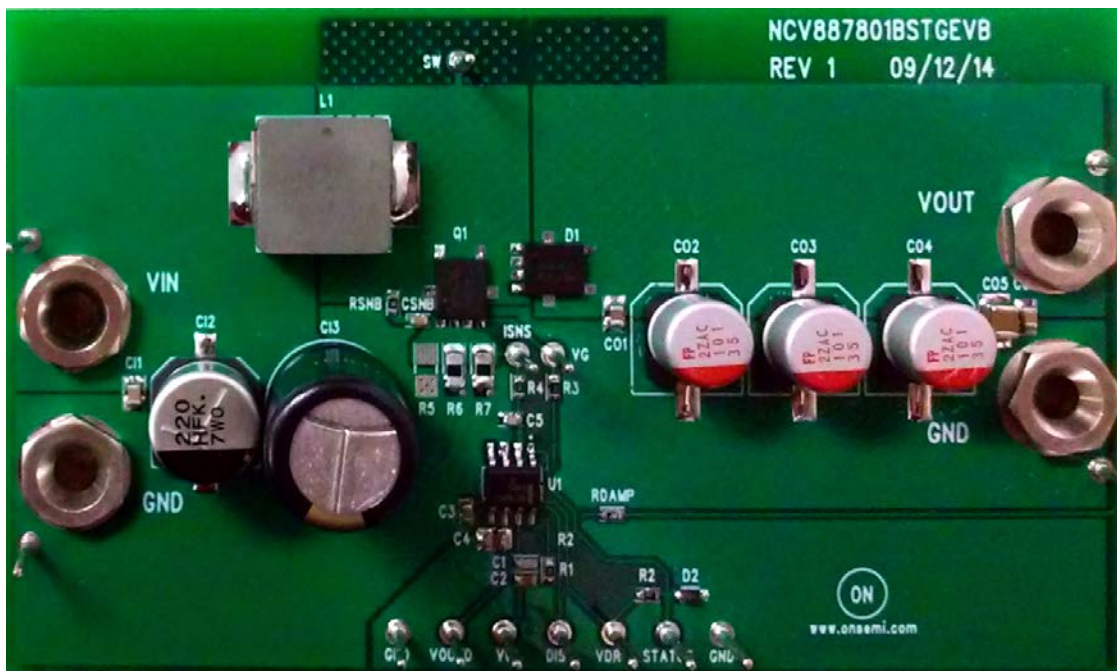

Figure 1. NCV887801 Start-Stop Demo Board
1. Connect a DC source voltage (15A capable) set to a voltage of 12-13V as shown in Fig. 1.
2. Connect the DISB TTL control signal as shown in Fig. 1. The initial DISB state should be set to logic-'0'.